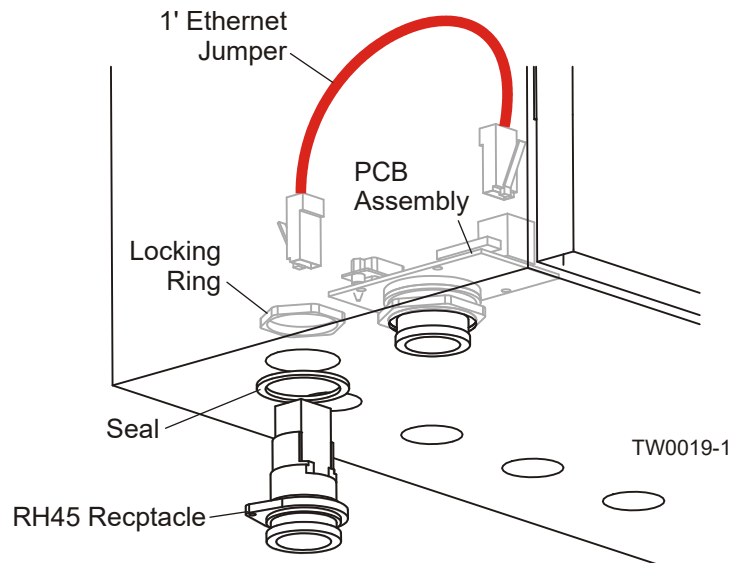

FIG. 2-16
**See Figure 2-16.** Locate the plugged hole in the bottom of deck #1 control box behind the existing ethernet receptacle. Remove the hole plug and install the provided RJ45 receptacle to the port hole. Orient the receptacle with the housing and seal outside of the box and secure with the threaded locking ring. Connect the receptacle to connector "J2" on the PCB assembly with the 1' ethernet jumper cable. Plug the deck #2 ethernet cable into the receptacle.